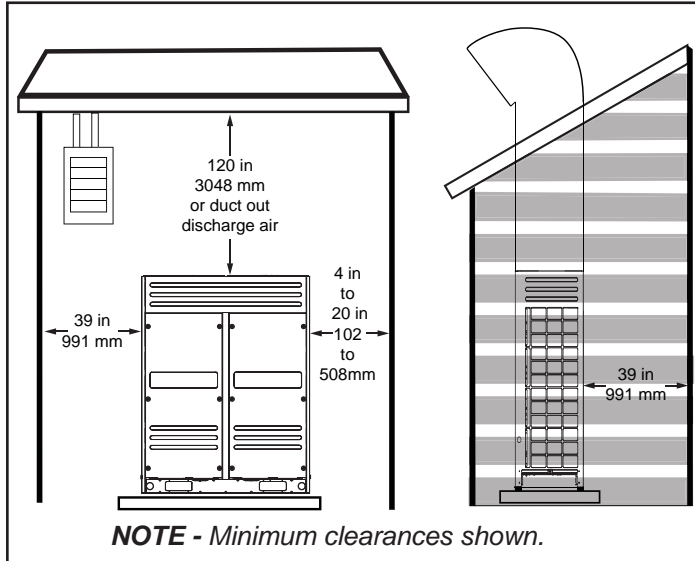

Figure 8. Mechanical Enclosure
- Install the outdoor unit in a mechanical enclosure. See figure 8.